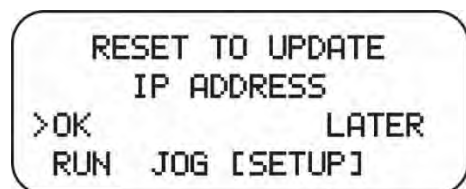

Figure 29
7. The Showstopper has to be rebooted for the new IP Address to take effect. After clicking OK, the next screen will let you select to reboot now, or postpone until later (Figure 29).